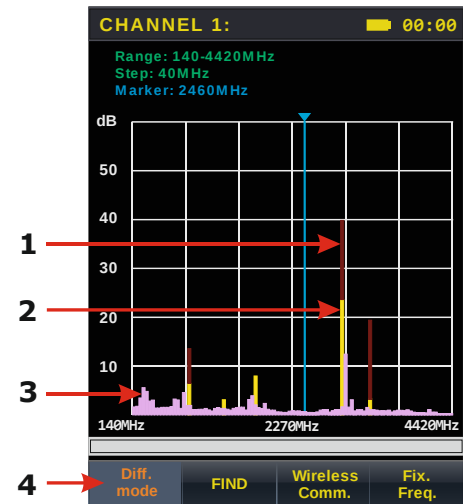

Figure 12
Indication of switch-on - change the colour labels "Diff. mode" from yellow to orange and lightening the background colour of the label (item 4 in Fig. 12)
The screen of the differential mode is shown in Figure 12.